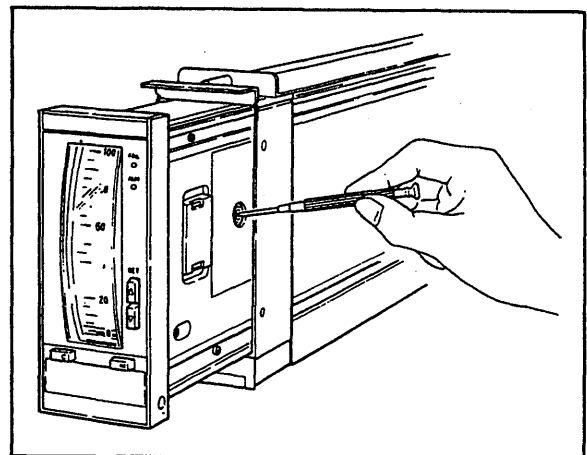

Figure 6-3. SMST-111 Setpoint Index Zero Adjustment.
- (1) Connect the DC voltage/current standard to cascade input terminals (terminal No. 3 (+) and terminal No. 4 (-)) and apply 3.0 V DC.
- (2) Select operation mode **C**.
- (3) After this, adjust in the same way as Process Variable Pointer. Setpoint Index Zero Adjustment is shown in Figure 6-3.